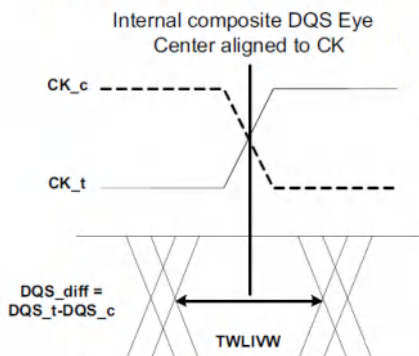

Figure 25. DQS\_t/DQS\_c to CK\_t/CK\_c timings at the DRAM pins referenced from the internal latch
- 28) tWLIVW is defined in a similar manner to tdlVW\_Total, except that here it is a DQS input valid window with respect to CK. This would need to account for all VT (voltage and temperature) drift terms between CK and DQS within the DRAM that affect the write-leveling input valid window. The DQS input mask for timing with respect to CK is shown in Figure 25. The "total" mask (tWLIVW) defines the time the input signal must not encroach in order for the DQS input to be successfully captured by CK with a BER of lower than tbd. The mask is a receiver property and it is not the valid data-eye.